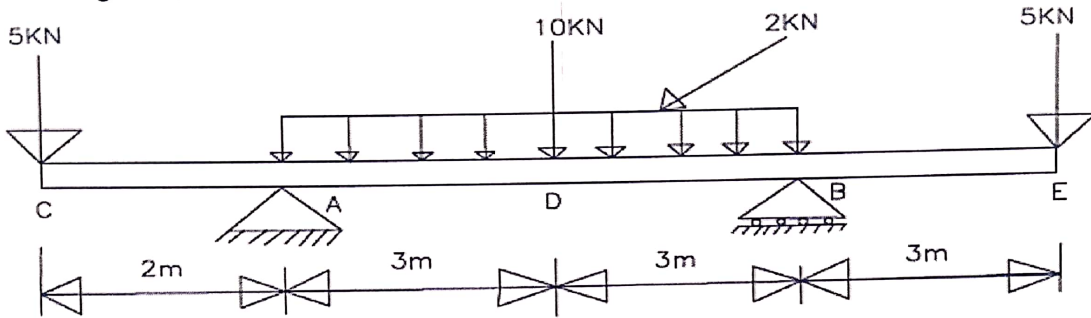

Figure. Q5: Overhanging beam
- a) Draw the shear force and bending moment diagram for the overhanging beam shown in Figure. Q5 (10 Marks).